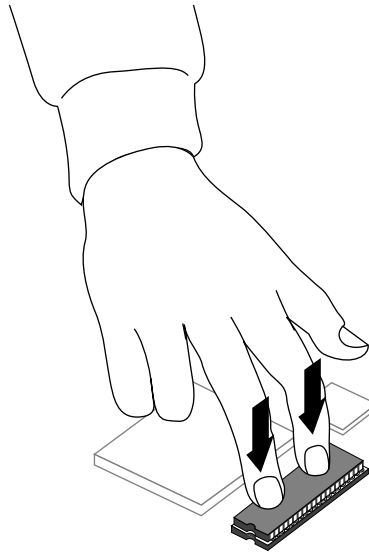

Figure 4 Pressing the PROM Chip Into the Socket
5. Once the pins are lined up, press down firmly on the top of the PROM chip until it is completely and evenly seated in the socket, as shown in Figure 4.